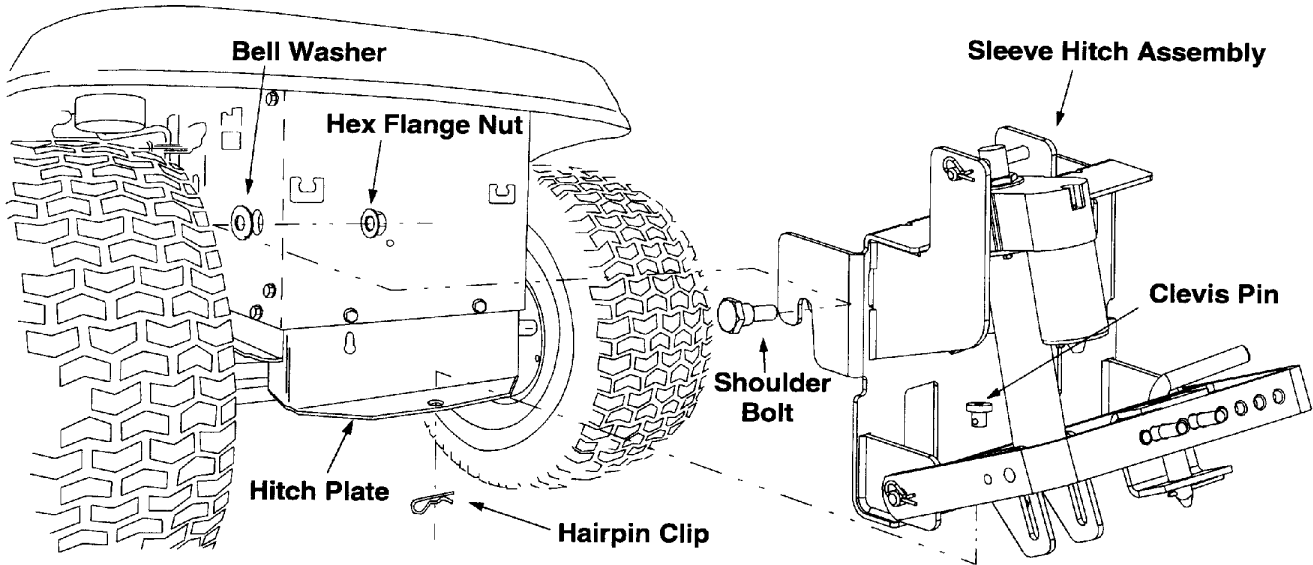

Figure 4
2. Attach the shoulder bolt, bell washer and hex flange nut to the left side of hitch plate as show in Figure 4.
4. Position the hooked ends of the sleeve hitch assembly to the outside of the hitch plate and over the shoulder bolts. Refer to Figure 4.
5. Insert the clevis pin through the aligned holes provided in both the sleeve hitch assembly and the tractor hitch plate. Affix with the hairpin clip. Refer to Figure 4.